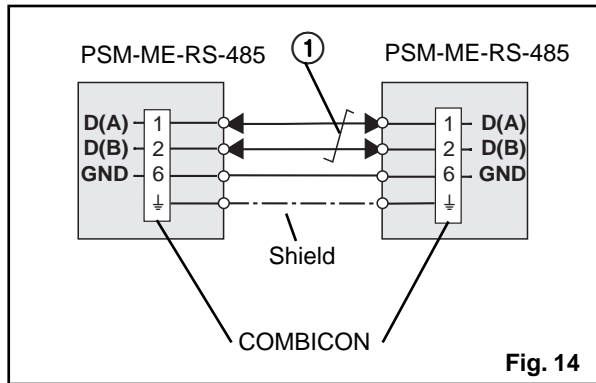

Fig. 14
- 6) To couple two RS-485 interfaces, connect the connections acc. to fig. 14. (⊕ = twisted pair) GND connection is recommended, but is not essential.